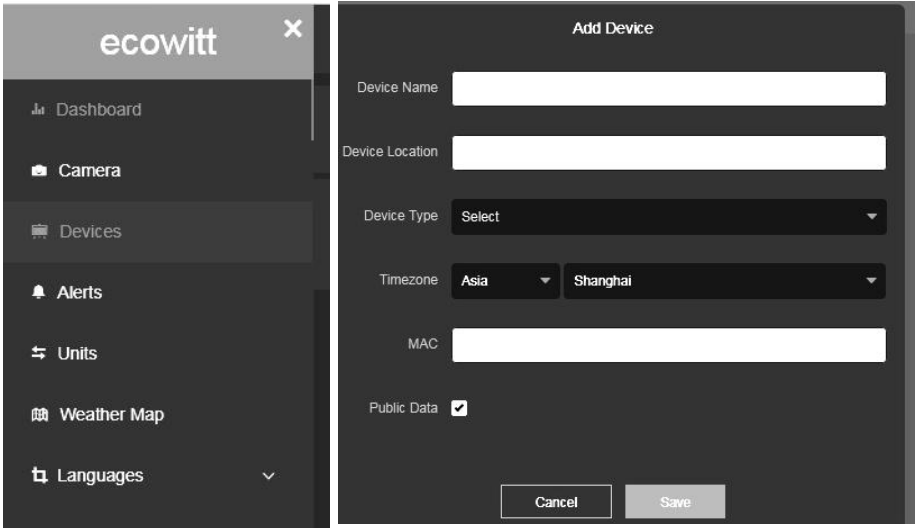

Figure 33: Ecowitt Server setup screen
- 2) Press the upper left menu button and select Devices. Press Add Device and input all the information needed, press save. MAC address found on Ecowitt Server setup screen (Figure33), Note that this is an example only and your MAC address will be different.